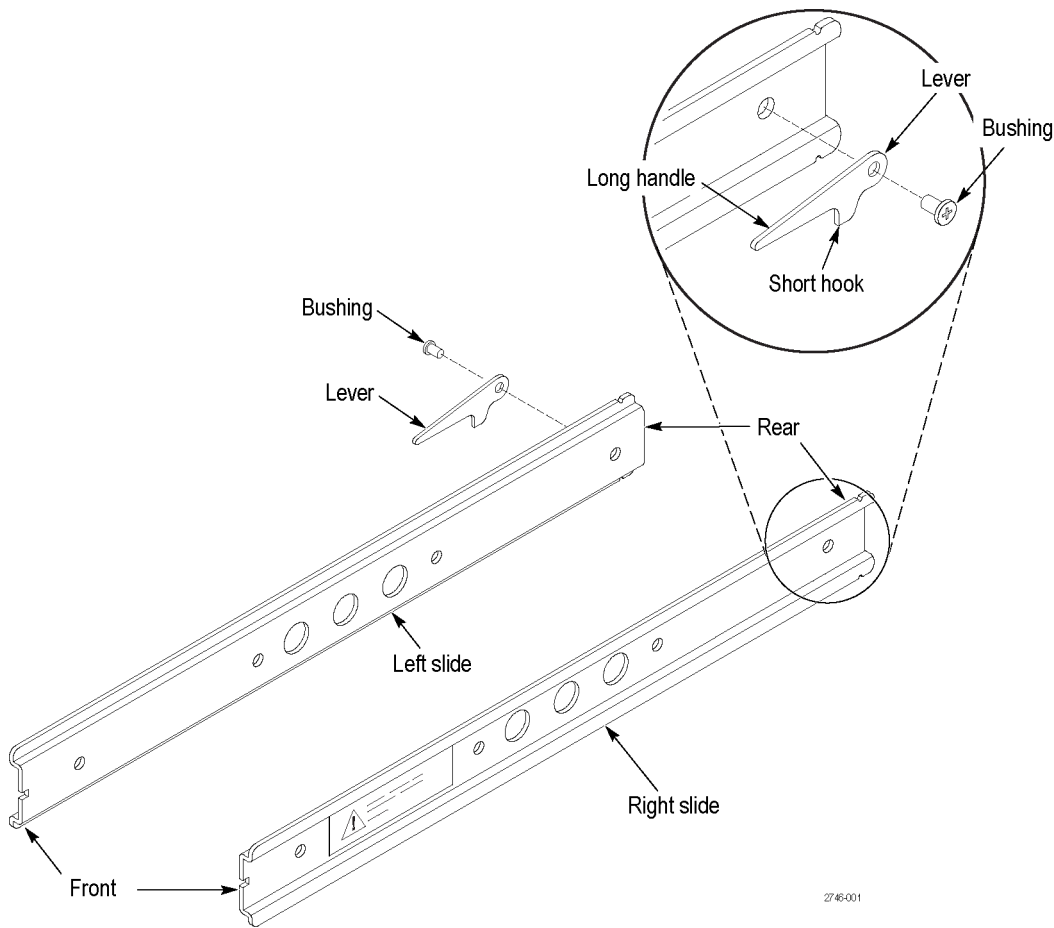

Figure 3: Attaching the slides
1. Identify the right rear and left rear of each slide. A warning label will be on the outside side of each slide. (See Figure 3.)
- b. Place a lever, with the long handle facing the front of the slide and the short hook facing downward, over the last hole. (See Figure 3.)
- d. Insert the bushing and screw into the lever so that the lever is attached to the slide and the slide is secured to the instrument. (See Figure 3.)